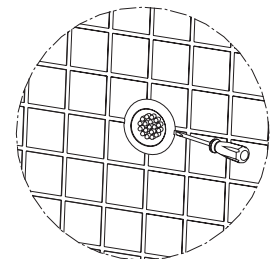

Figure 6
6. Remove and replace of water light, simply use a flathead screwdriver from the side to eject. (Figure 6)